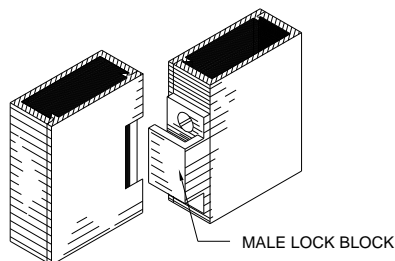

Fig. 3-2
3. Engage the midsections of the closing channel together with the male lock block. (Fig. 3-2)